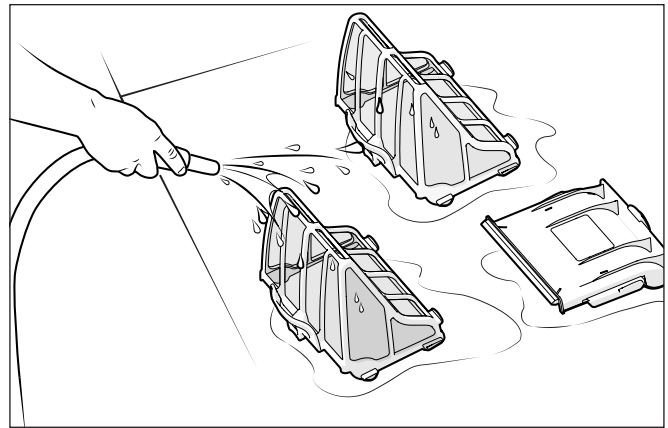

Figure 17. Wash Filter Canister
7. Empty all debris from the filter canister, then rinse the canister, the filter support and the cleaner using a hose, as shown in Figure 17.